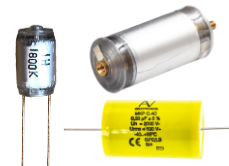

Fig.1-75: Polystyrene film
**Mica capacitors** are made by sandwiching mica sheets coated with metal on both sides that work as the plates of the capacitor [Fig.1-75]. This assembly is then encased in epoxy in order to protect it from the environment. Sometimes, the mica dielectric is silvered to produce the electrodes or plates of the capacitor. This variety is called **silver mica capacitor**. They offer very high levels of stability, high precision, low loss, and accuracy. Though are not widely used these days, they were frequently used for high frequency RF applications. They are available in small values and limited to maximum values of approximately 1000 pF.